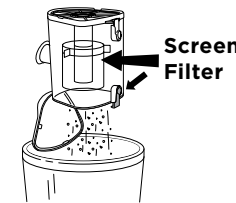

Fig. 20
- 3 If needed, turn the dust cup upside down over the trash receptacle and press the top door release button. (Fig. 20) Tap gently to remove contents.